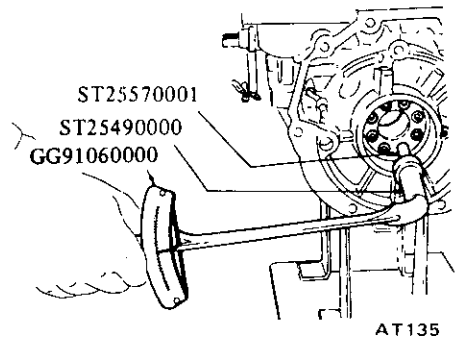

Fig. AT-69 Installing one-way clutch inner race
1. After installing piston of low and reverse brake, assemble thrust spring ring, return spring, thrust washer and one-way clutch inner race. Torque hex-head Extension ST25570001 (ST25570000), Torque Wrench GG91060000 and Socket Extension ST25490000 (ST25512001). See Figure AT-69.